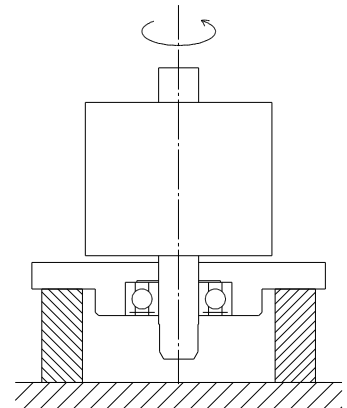

Fig.10
- (3) Remove Vanes(73), and Spring(74), and Cylinder(75).
- (4) Take off Rotor(71) from the vise.
Place Rotor(71) with End plate(69) facing downward as shown in Fig. 10, and check Rotor rotates smoothly.